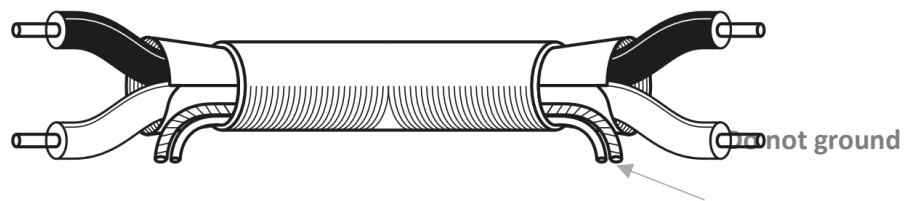

Figure 3.3.1 – Instructions on shielding Isolation.
- For the wiring, it is recommended to use shielded cable with a cross-section between  $0.75 \text{ mm}^2$  and  $1.5 \text{ mm}^2$  with a copper braid, only one end of the shielding should be grounded. Figure 3.3.1 provides instructions on isolating the braid.